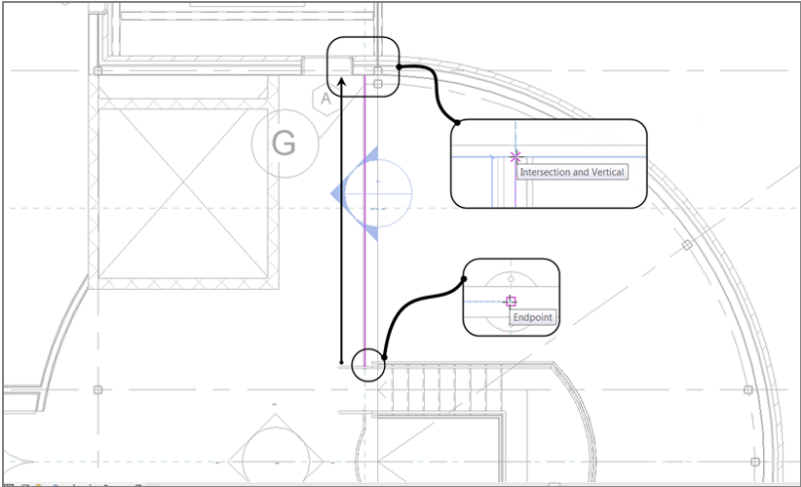

FIGURE 10.28: Creating the northern railing
8. Draw another railing, as shown in Figure 10.28.